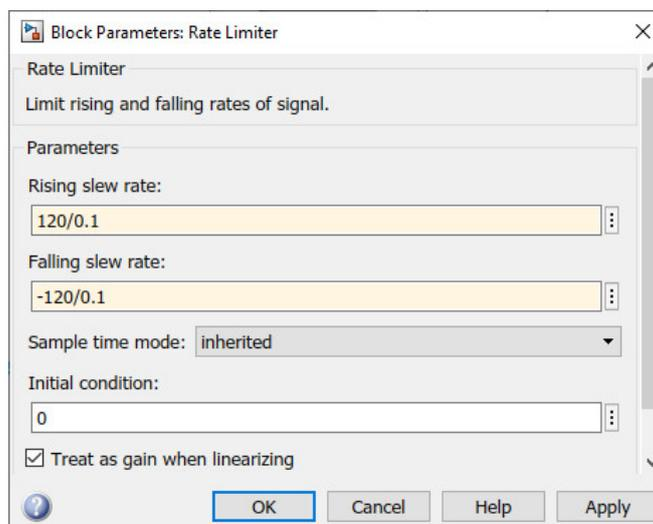

Figure 8: Rate limiter.
3. Limit the rising rate of the voltage to 120 V/0.1 s using the **Rate Limiter** block, cf. Fig. 8. Place this block between the voltage step and the motor model. Simulate the model and show the results in your report. Briefly comment on the current and speed responses.